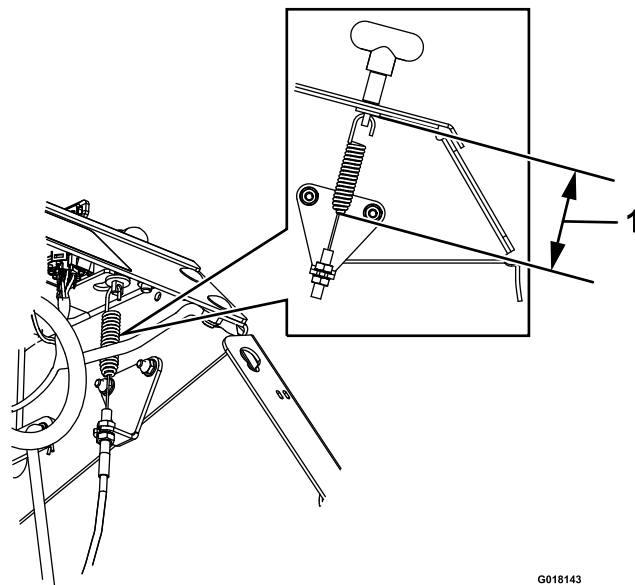

Figure 16
7. Adjust the nut position until 3 1/8 inch (7.9 cm) from the bottom of the link to the bottom of the spring. See Figure 16.